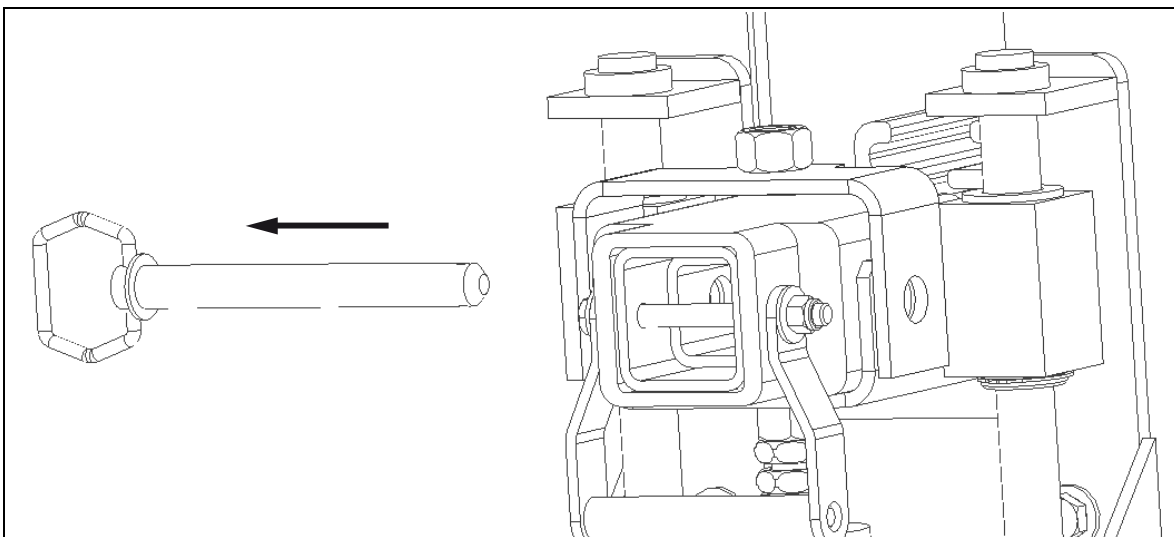

Fig. 27
6. Pull the cleaner cartridge out of the mainframe by its handle (6, Fig. 27).